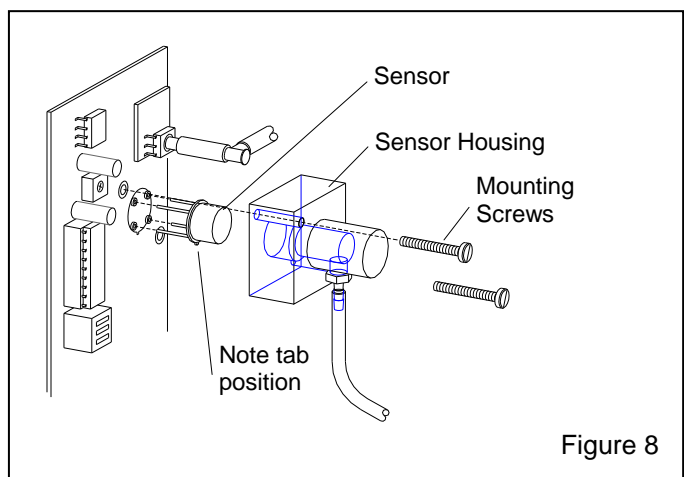

Figure 8
6.1.6 Locate the clear-plastic sensor housing, shown in Figure 8, and while supporting the circuit board, loosen the two mounting screws.
6.1.11 Handle the new sensor taking care not to distort the pins. Rotate the sensor so the tab is in the same position as was the old one (as shown in Figure 8) and plug the pins into the socket. Some pin alignment may be required, and is normal. Push firmly but carefully to seat the sensor. The sensor will stand off the circuit board by approximately 1/4" when seated.